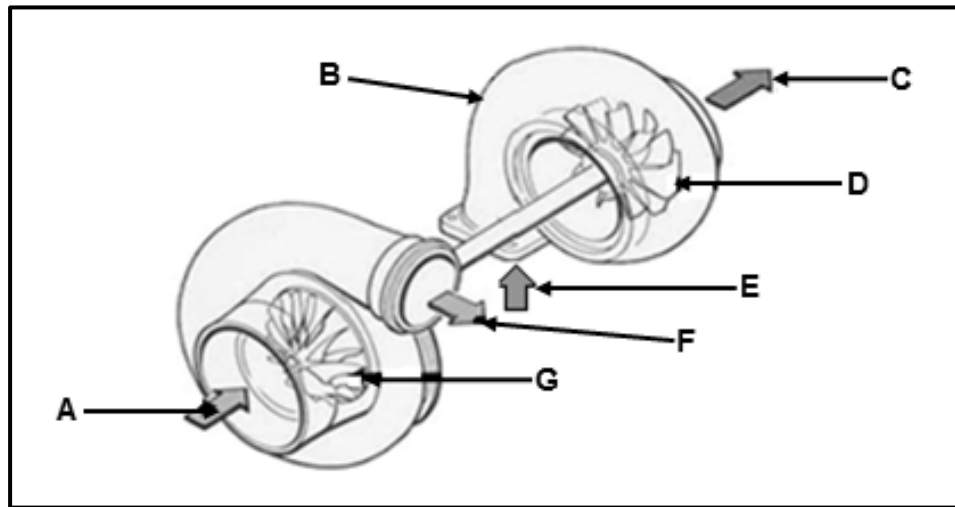

FIGURE 6.5
- 6.5 A turbocharger is shown in FIGURE 6.5 below. Answer the questions that follow.